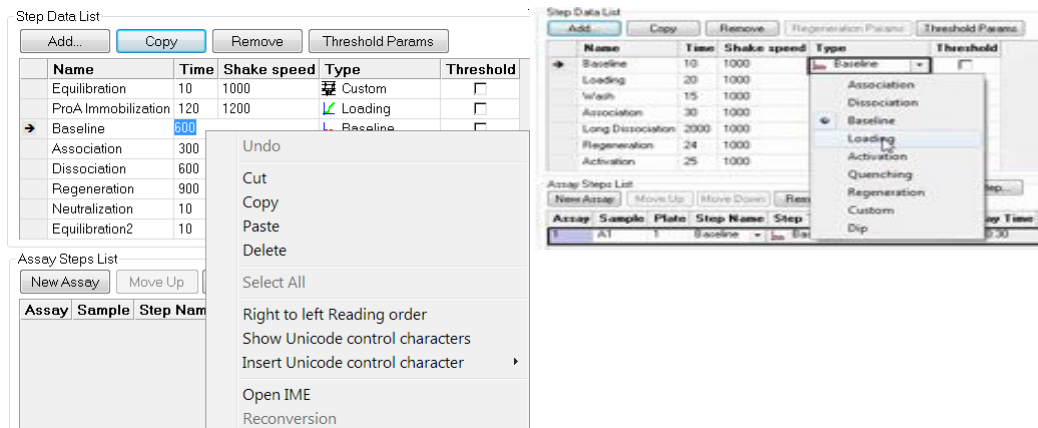

Figure 8-28: Editing a Step Value (left) or Step Type (right)
- Double-click the cell in the step's **Name**, **Time** or **Shake speed** column and then enter a new value. Or, right-click the cell to display a shortcut menu of editing commands (see Figure 8-28, left).
- Click the cell in the step's **Type** column, then select another name from the drop-down list (see Figure 8-28, right).